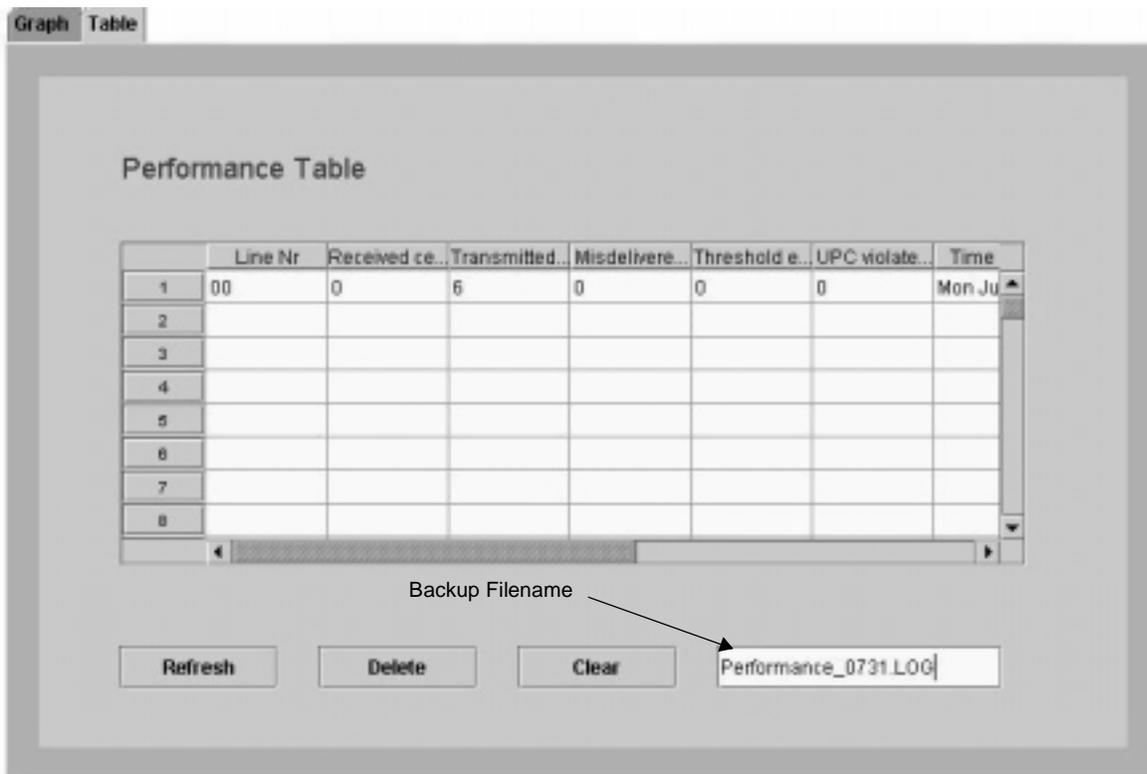

Figure 9-5: Backup File Name Field
1. Click **BACKUP**. The backup file name field displays. See Figure 9-5.